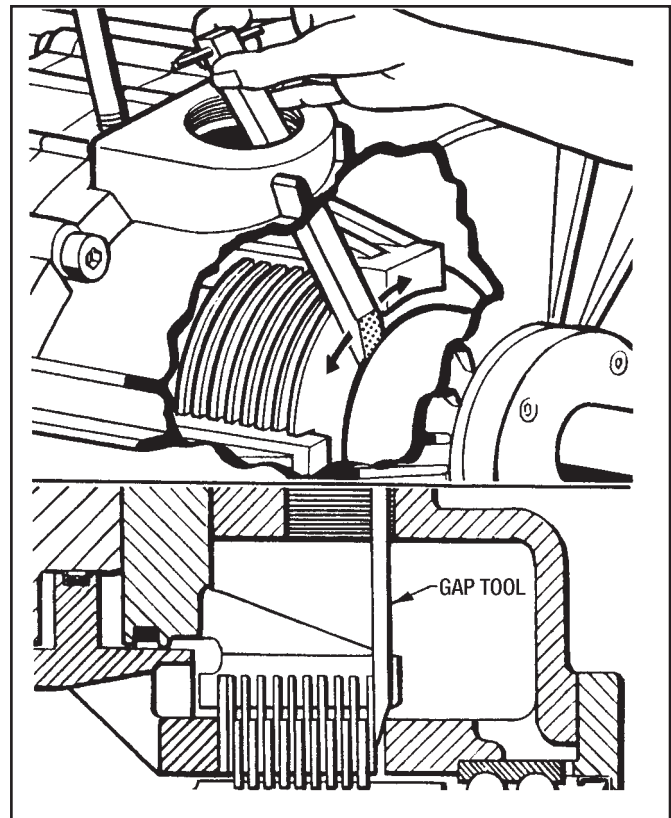

Figure 9.12 - Inserting Gap Tool
4. Firmly insert the Gap Tool through the inspection port above the Brake Stack so that any slack is removed from the Brake Stack. **NOTE:** The straight side of the Gap Tool is towards the Brake Stack. (See Figure 9.12)